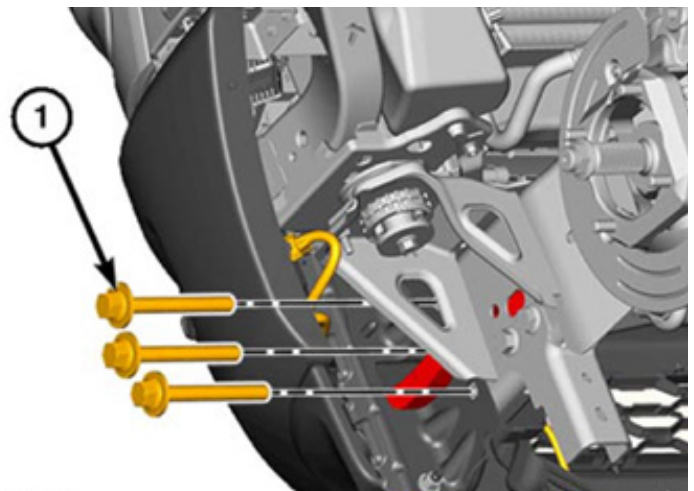

Figure 7
7. With assistance, support the bumper from both sides of the vehicle. Using an 18mm socket wrench, 24mm socket wrench and 18mm open end wench, remove the three factory bumper bolts that hold the factory bumper to the frame rail. (Figure 7)